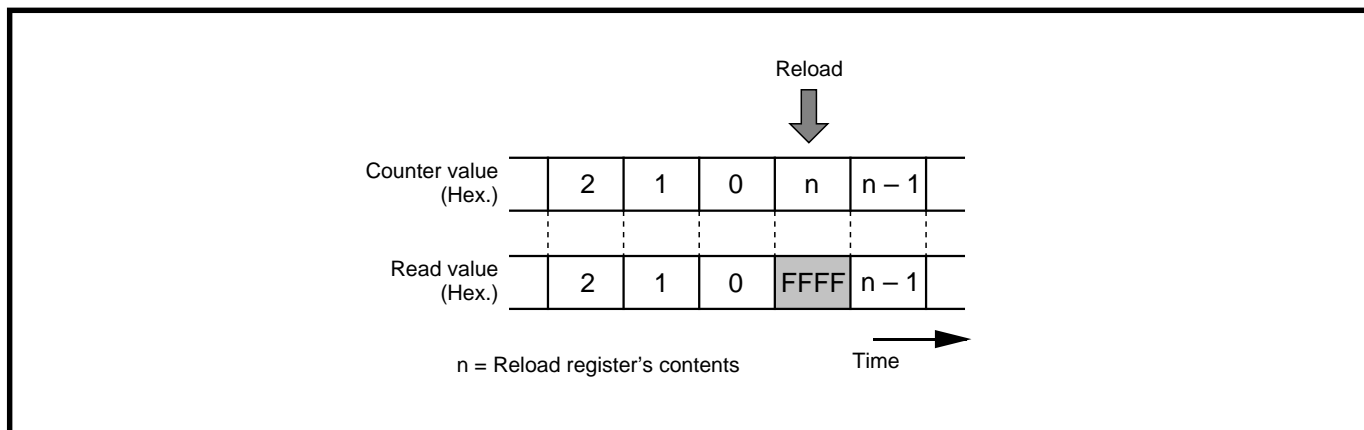

Fig. 7.6.5 Timer B2 register read out
1. While counting is in progress, by reading out the timer B2 register, the counter value can be read at an arbitrary timing. However, when reading is performed at the reload timing shown in Figure 7.6.5, value “FFFF₁₆” is read out. If reading is performed in the period from when a value is set into the timer B2 register with the counter stopped until the counter starts counting, the set value is correctly read out.